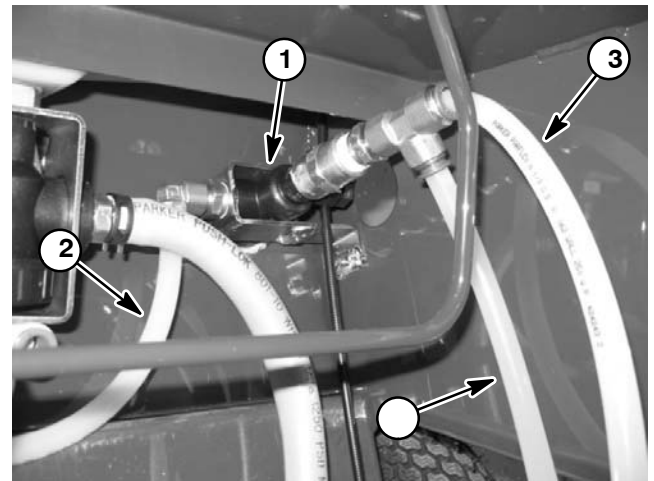

Figure 23
5. Label hoses connected to pressure regulator to assist in assembly. Remove hoses from fittings on pressure regulator (Fig. 23) (see Quick Disconnect Fitting in the General Information section).